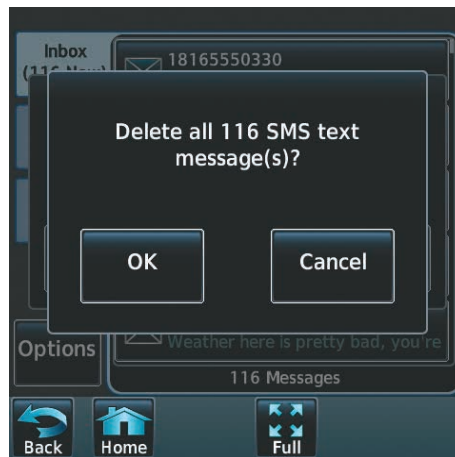

Figure 8-83 Confirm Deletion of Messages
- 3) Touch the **Delete All Messages** Button. A confirmation screen is displayed as in Figure 8-83.